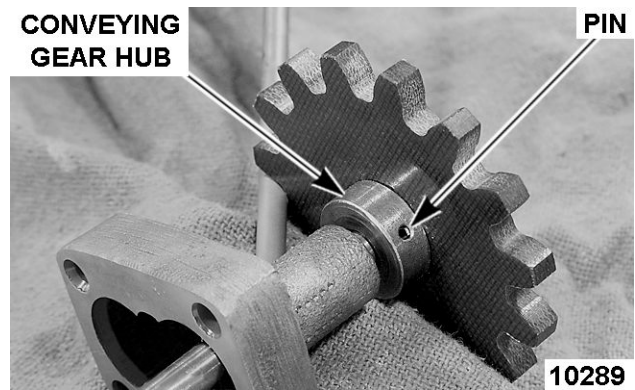

Fig. 34
- Install conveying gear (hub side down) onto oil pump shaft. Secure by driving pin into position. Fig. 34